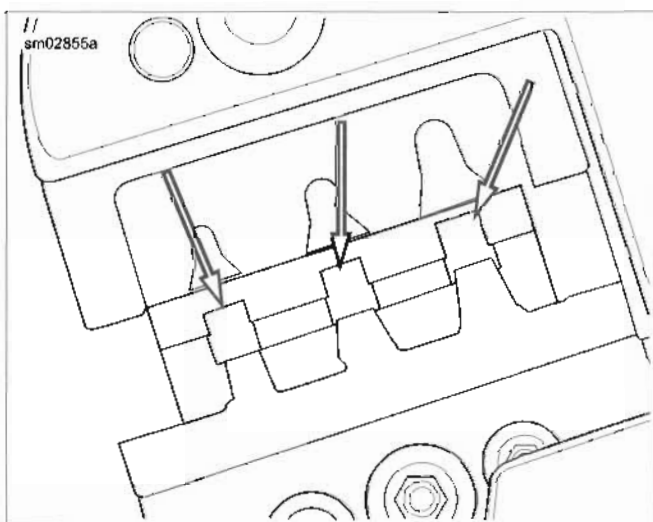

Figure A-54. Square Openings in Socket Locator Bar
1. See Figure A-54. With the crimp tails up, place the terminal through the punch/die into the square opening in the socket locator bar.